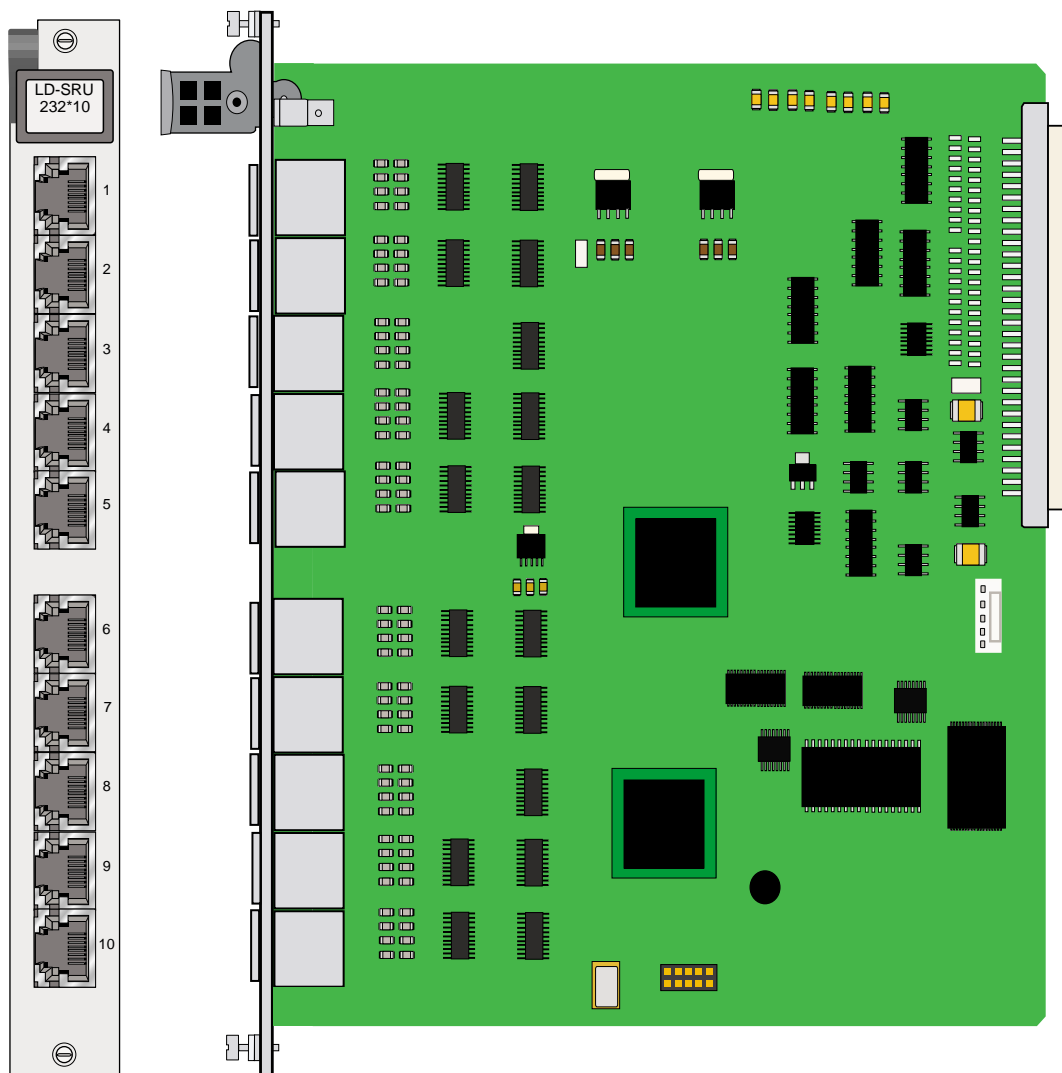
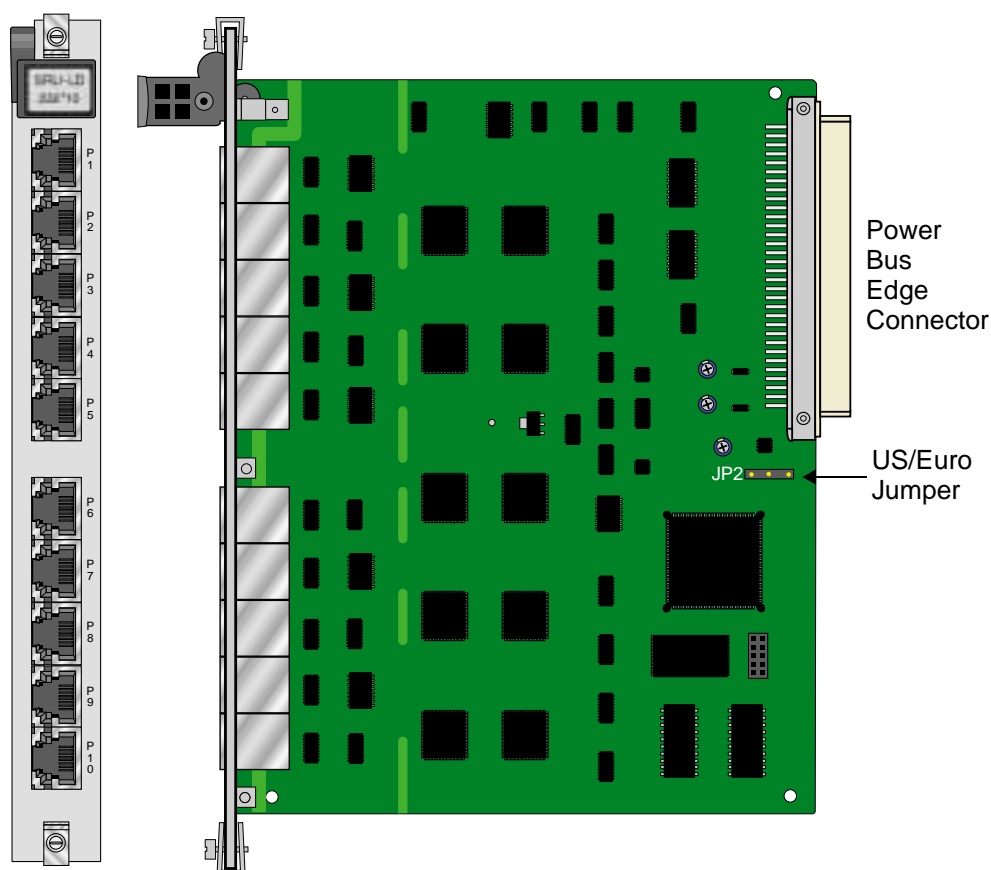

Figure 16-4.PRM-822570 LD-SRU board
Figure 16-5.PRM-822560 SRU-LD*10 Card Jumper Settings
2. Faceplate numbering. The PRM-822570 card has ports labeled 1 through 10, where the last number (10) has the digits side by side. The PRM-822560 card has port labeled P1 through P10, and the letters and numbers are all arranged vertically.
4. Faceplate fasteners. The PRM-822570 card has thumbscrews for fasteners, which are larger and can be turned with a phillips or straight-edge screwdriver. The PRM-822560 has smaller screws that can be turned only with a straight-edge screwdriver, and the faceplate itself has raised “dimples” where the screw is located. The PRM-822570 has no such “dimple”. See Figure 16-4 and Figure 16-5 for representations to the two cards.
The SRU-LD*10 Card has US/Euro jumpers or switches on its mainboard. JP2. See Figure 16-5.